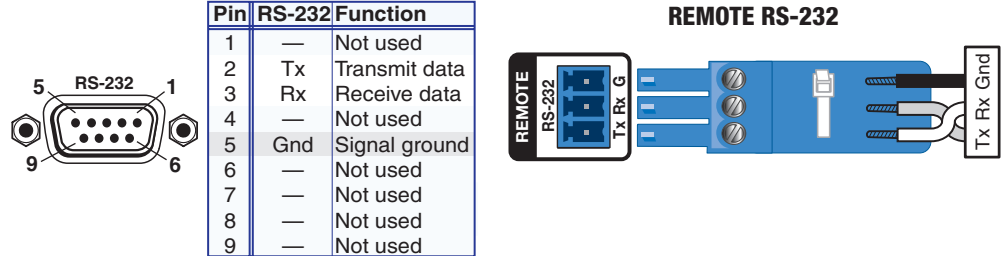

Figure 6. Remote Port Pin Assignments and Wiring Diagram
- H Remote RS-232 port** (see figure 2 on page 6) — Connect a host device, such as a computer or touchpanel controller, to the rear panel bidirectional RS-232 port (see figure 6 for wiring). The default baud rate is 9600.